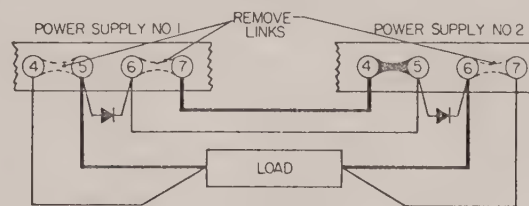

FIG. 3-10 SERIES CONNECTION OF PAX SUPPLIES
- 3-37 General: Kepco PAX Modules can be series-connected for increased voltage output provided the specified limits on voltage to chassis are not exceeded. When series-connected, the supplies should be protected by means of a semiconductor diode across the output terminals of each power supply, as shown in Fig. 3-10. The peak inverse rating of these diodes must be at least as large as the output voltage of the supply to which they are connected. The continuous current rating of the diodes should be at least as great as the largest short-circuit current of the interconnected supplies.
3-38 Procedure (Refer to Fig. 3-10)
- Connect load as shown in Fig. 3-10. Keep voltage drop in load wires as low as practical by using heavy gauge wire.